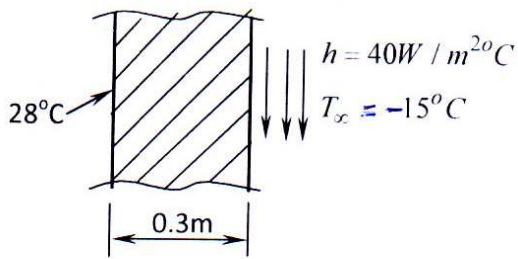

Fig. Q 9(b)
- b. Consider a brick wall (Fig Q 9(b)) of thickness  $L = 0.3 \text{ m}$ ,  $K = 0.7 \text{ W/m}^\circ\text{C}$ . The inner surface is at  $28^\circ\text{C}$  and the outer surface is exposed to cold air at  $-15^\circ\text{C}$ . The heat transfer coefficient associated with the outside surface is  $h = 40 \text{ W/m}^2\text{C}$ . Determine the steady-state temperature distribution within the wall and also the heat flux through the wall. Use two-element model. 12